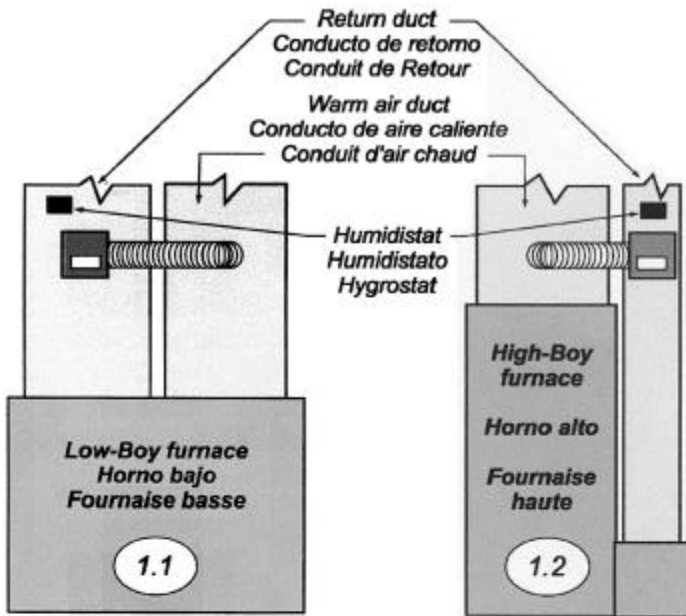

Fig.1 Typical installations
17. Installing the humidistat and the transformer (Please see Fig. 1, 2, 8 and 9)